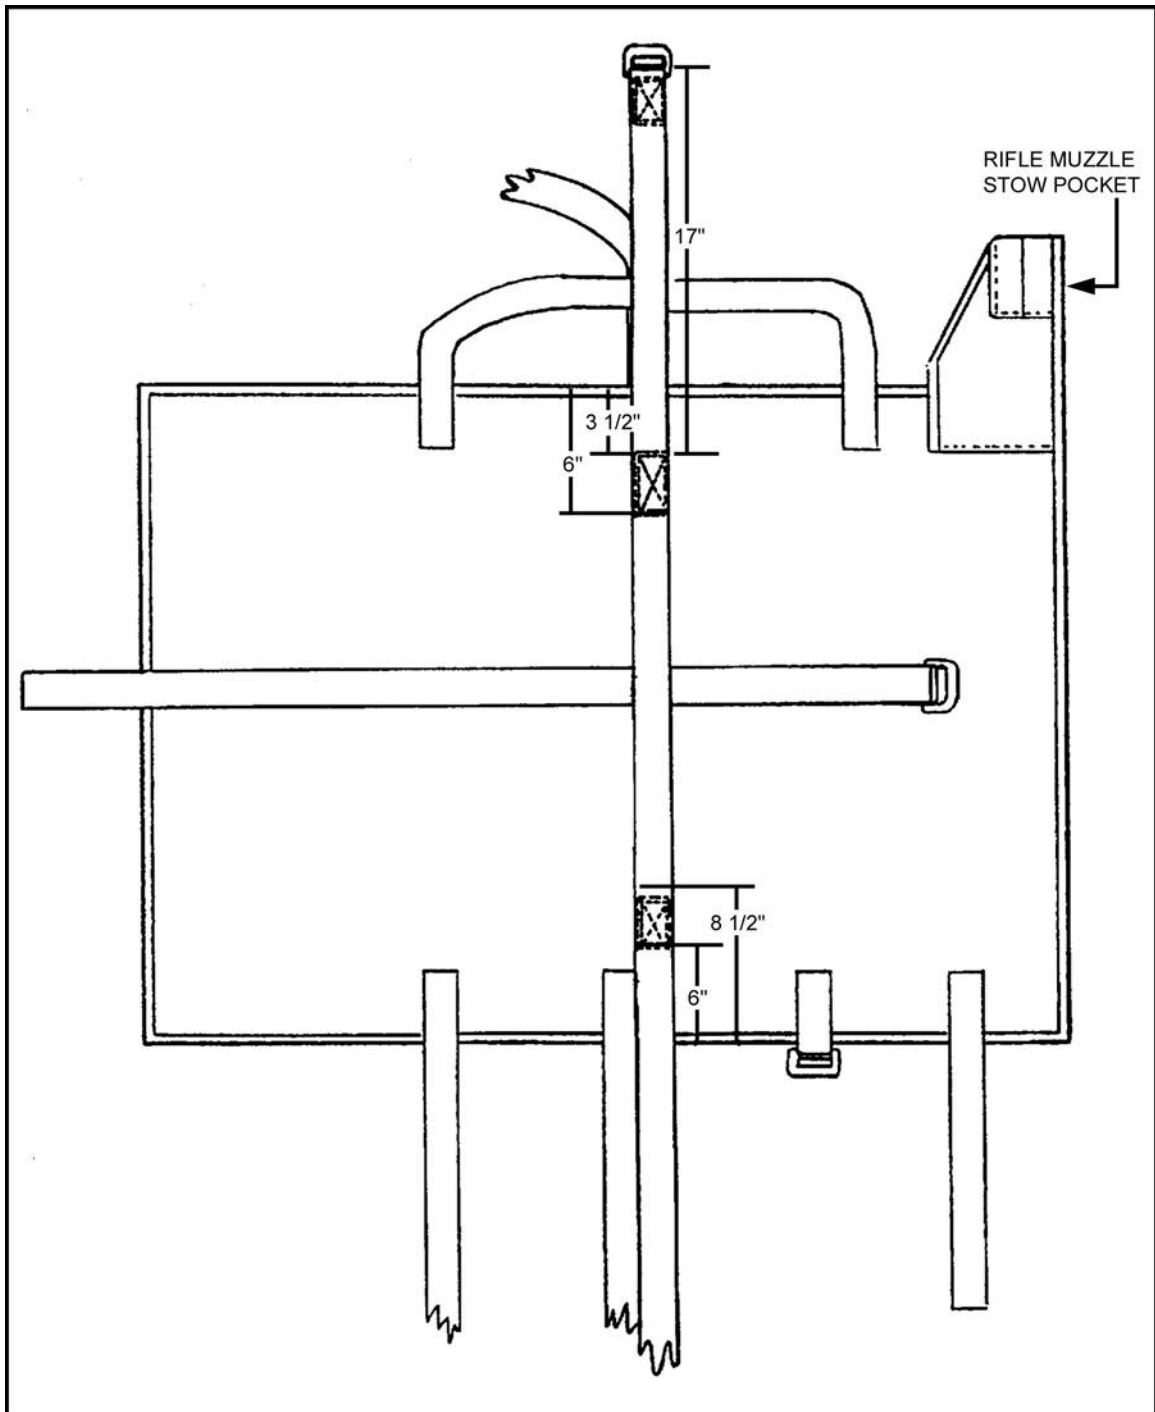

Figure 12-63. A-7A strap cut, marked, aligned, and stitched.
e. Cut a second A-7A strap to an overall length of 68 inches. Mark the A-7A strap at a point 17 inches from the buckle. Align this mark with the 3 1/2-inch mark and stitch with two box-X stitch formations (Figure 12-63).